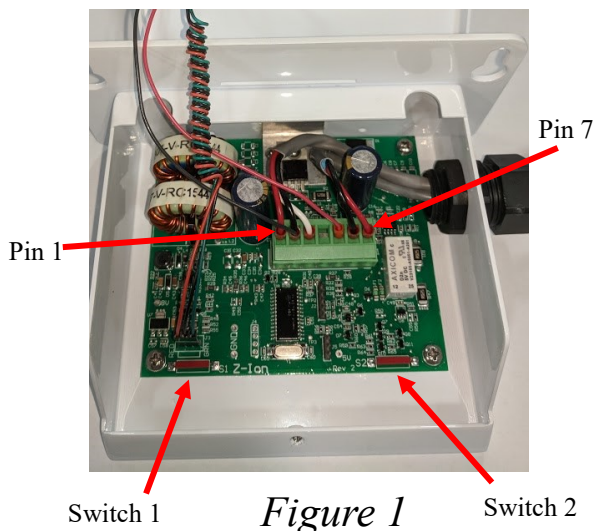

Figure 1
- There are 7 pins on the phoenix connector from left to right in Figure 1.*